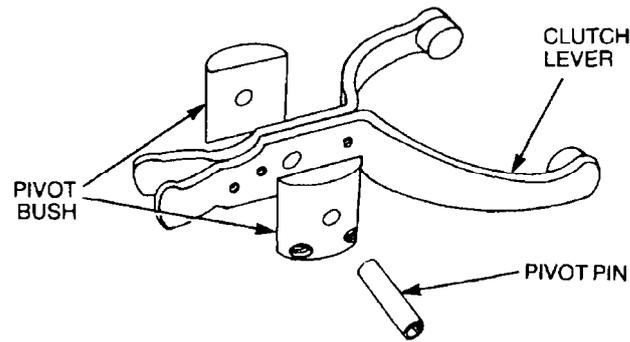

Figure 282 Removing the Pivot Bush and Pin
- q.** Remove the clutch lever pivot pin and pivot bush halves, taking note of the position of the bush halves (Figure 282).